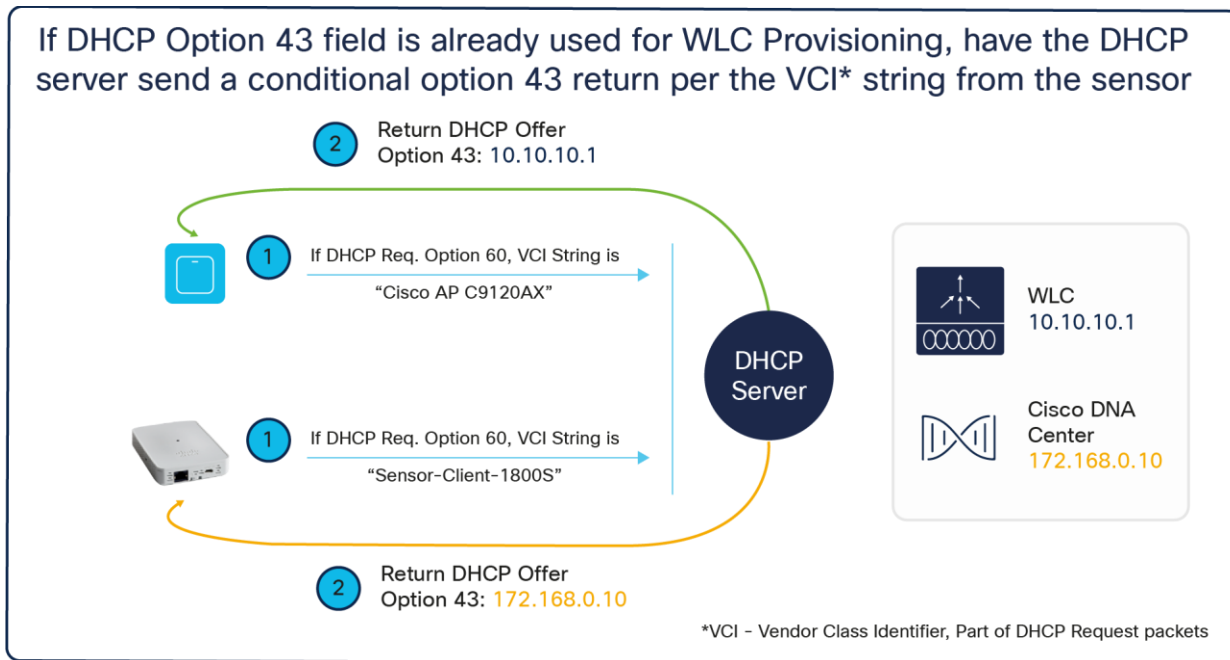

Figure 31.
- b. Conditional: If the DHCP option 43 field is already used for another purpose (such as to send the wireless controller IP address to the AP), you can configure the DHCP server to return a different option 43 message based on the client device type (**Figure 31**).